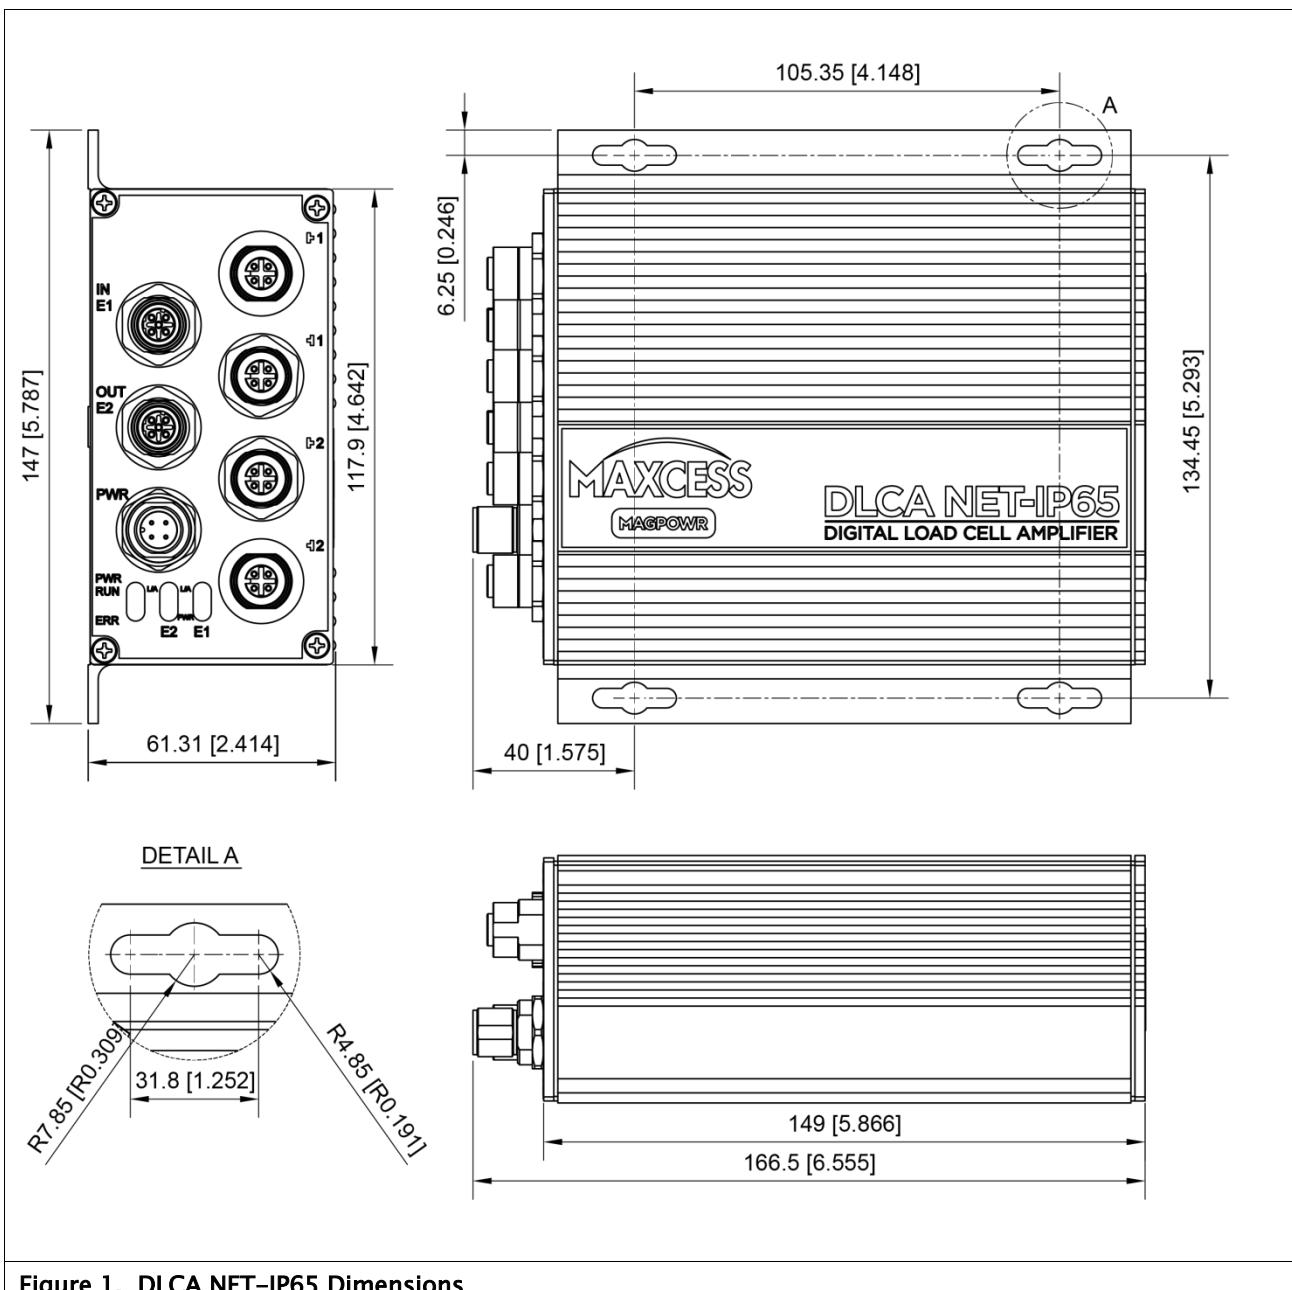

Figure 1. DLCA NET-IP65 Dimensions
1. Mount the DLCA NET-IP65 to a flat surface with 4 bolts and nuts. See Figure 1 for DLCA NET-IP65 dimensions.